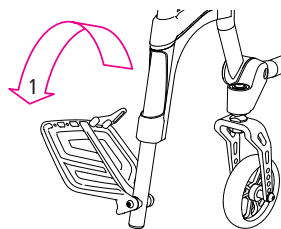
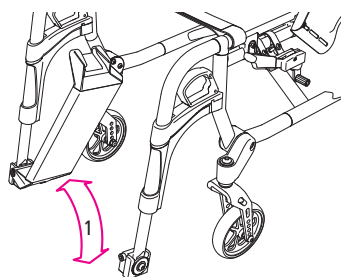

Fig. 7
Fig. 8
1. The foot plates (1, Fig. 7) or the optionally selected foot board (1, Fig. 8) are adjusted to the correct position by swinging them upwards or downwards.
2. The foot board, depending on the side it is assembled on, can be swivelled upwards or downwards to the left or right (1, Fig. 8).